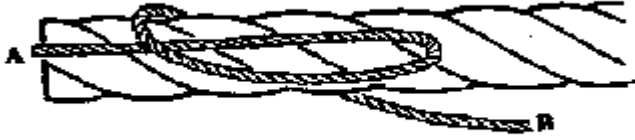

Fig. 2
- To make a whipping, a fine yarn is generally used. Make a loop in the end of the yarn and place the loop at the end of the rope, as shown in figure 2.